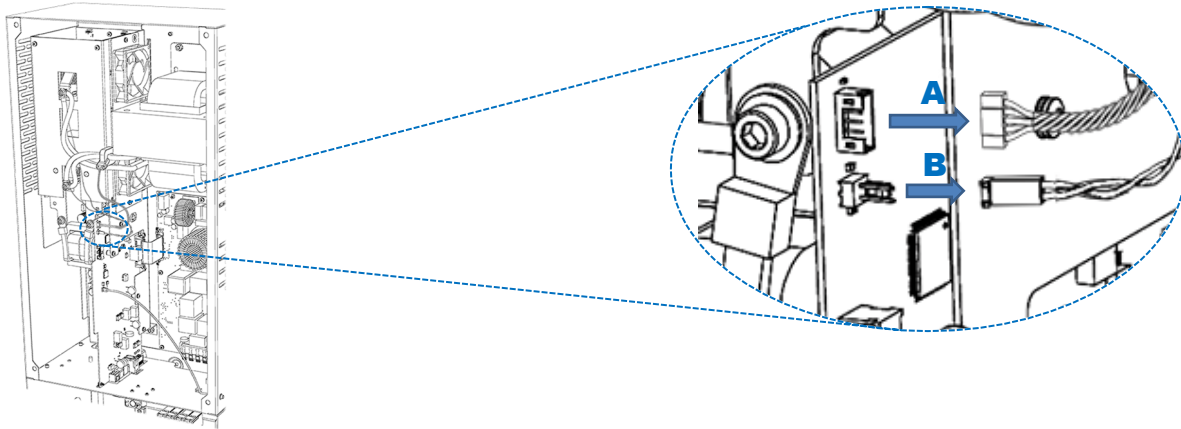

Figure 44 Control Board Connectors
1. Remove the 5-conductor current transducer plug from the control board. See **A** in Figure 44.
2. Remove the 2-pin voltage sense connector. See **B** in Figure 44.
- Replace voltage sense connector **B** and current transducer connector **A**. See Figure 44 if necessary.